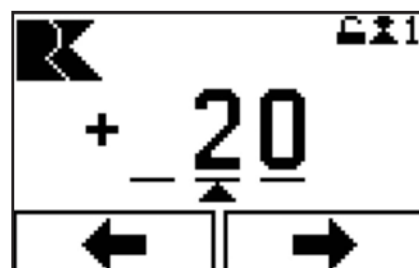

Figure 47 - Entering a value
3. Set the relative target position (stroke of the drive Figure 47).